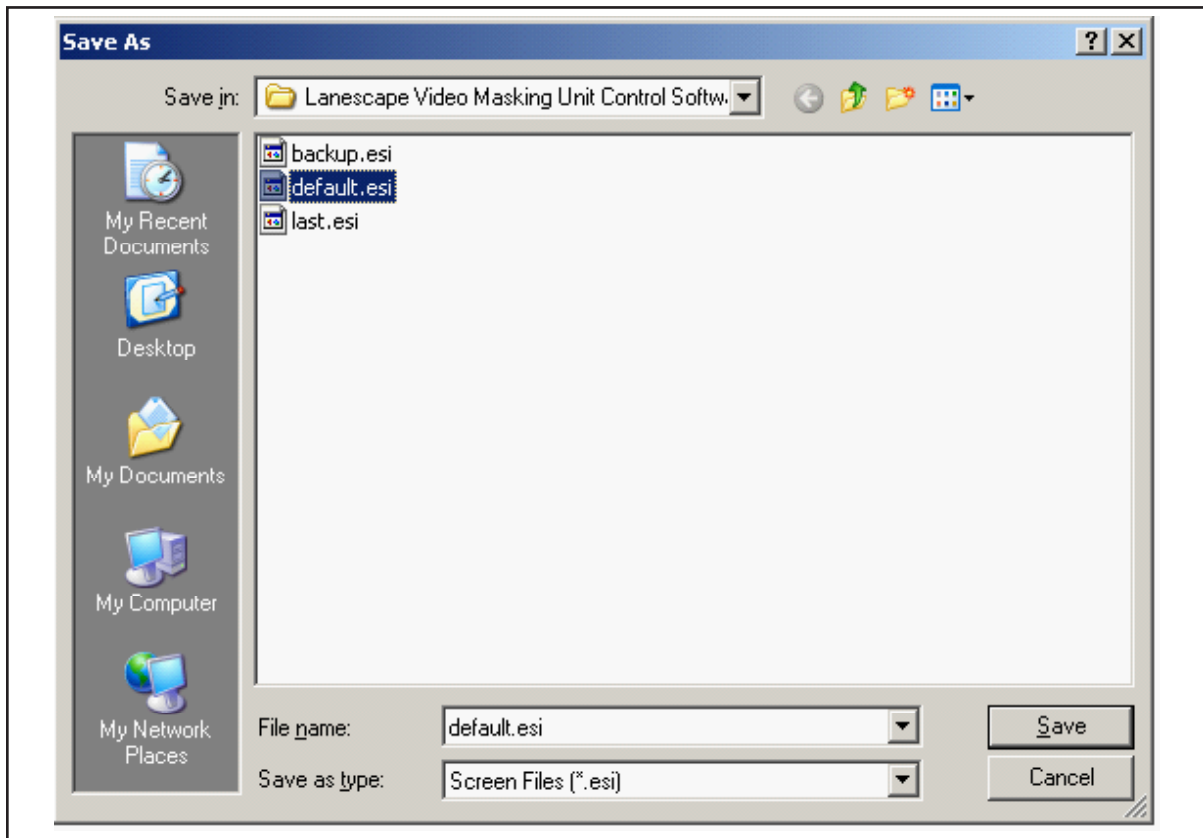

Figure 98
9. Select the “default.esi” file and click “Save.” Refer to the following Figure 98.